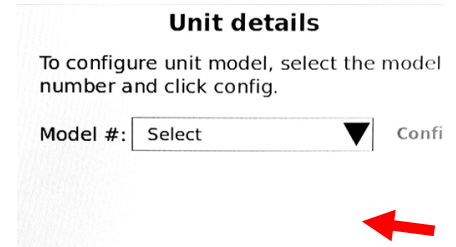

Figure 35
46. The controller displays the model # configuration screen (see Figure 35).
47. Press the down arrow (see Figure 35)